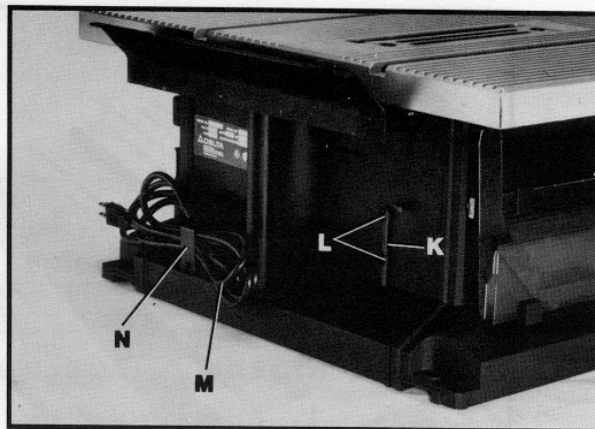

Fig. 47
5. The allen wrench (K) Fig. 47, supplied with your saw can be stored in the two holes (L) on the rear of the saw cabinet and the saw power cord (M) can be inserted in the bracket (N) as shown.